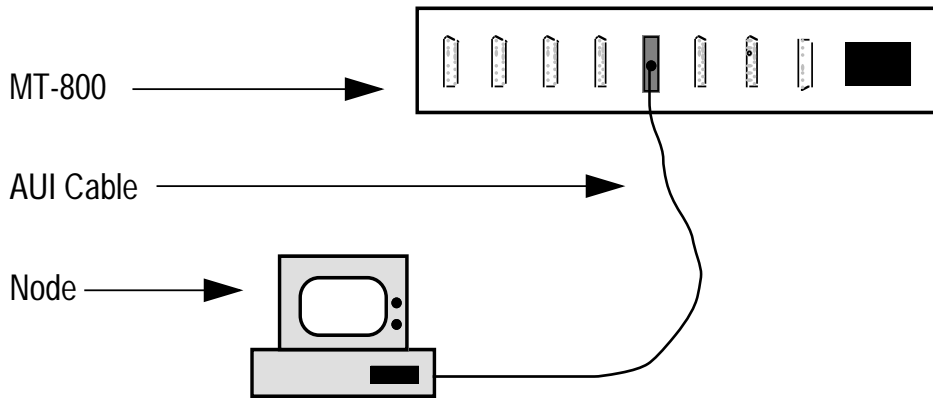

Figure 2-1. MT-800 in Stand Alone Configuration
- a. When one MT-800 is being used in a stand alone configuration, the total length of any AUI cable from the MT-800 to a node must not exceed 40 meters (Figure 2-1).